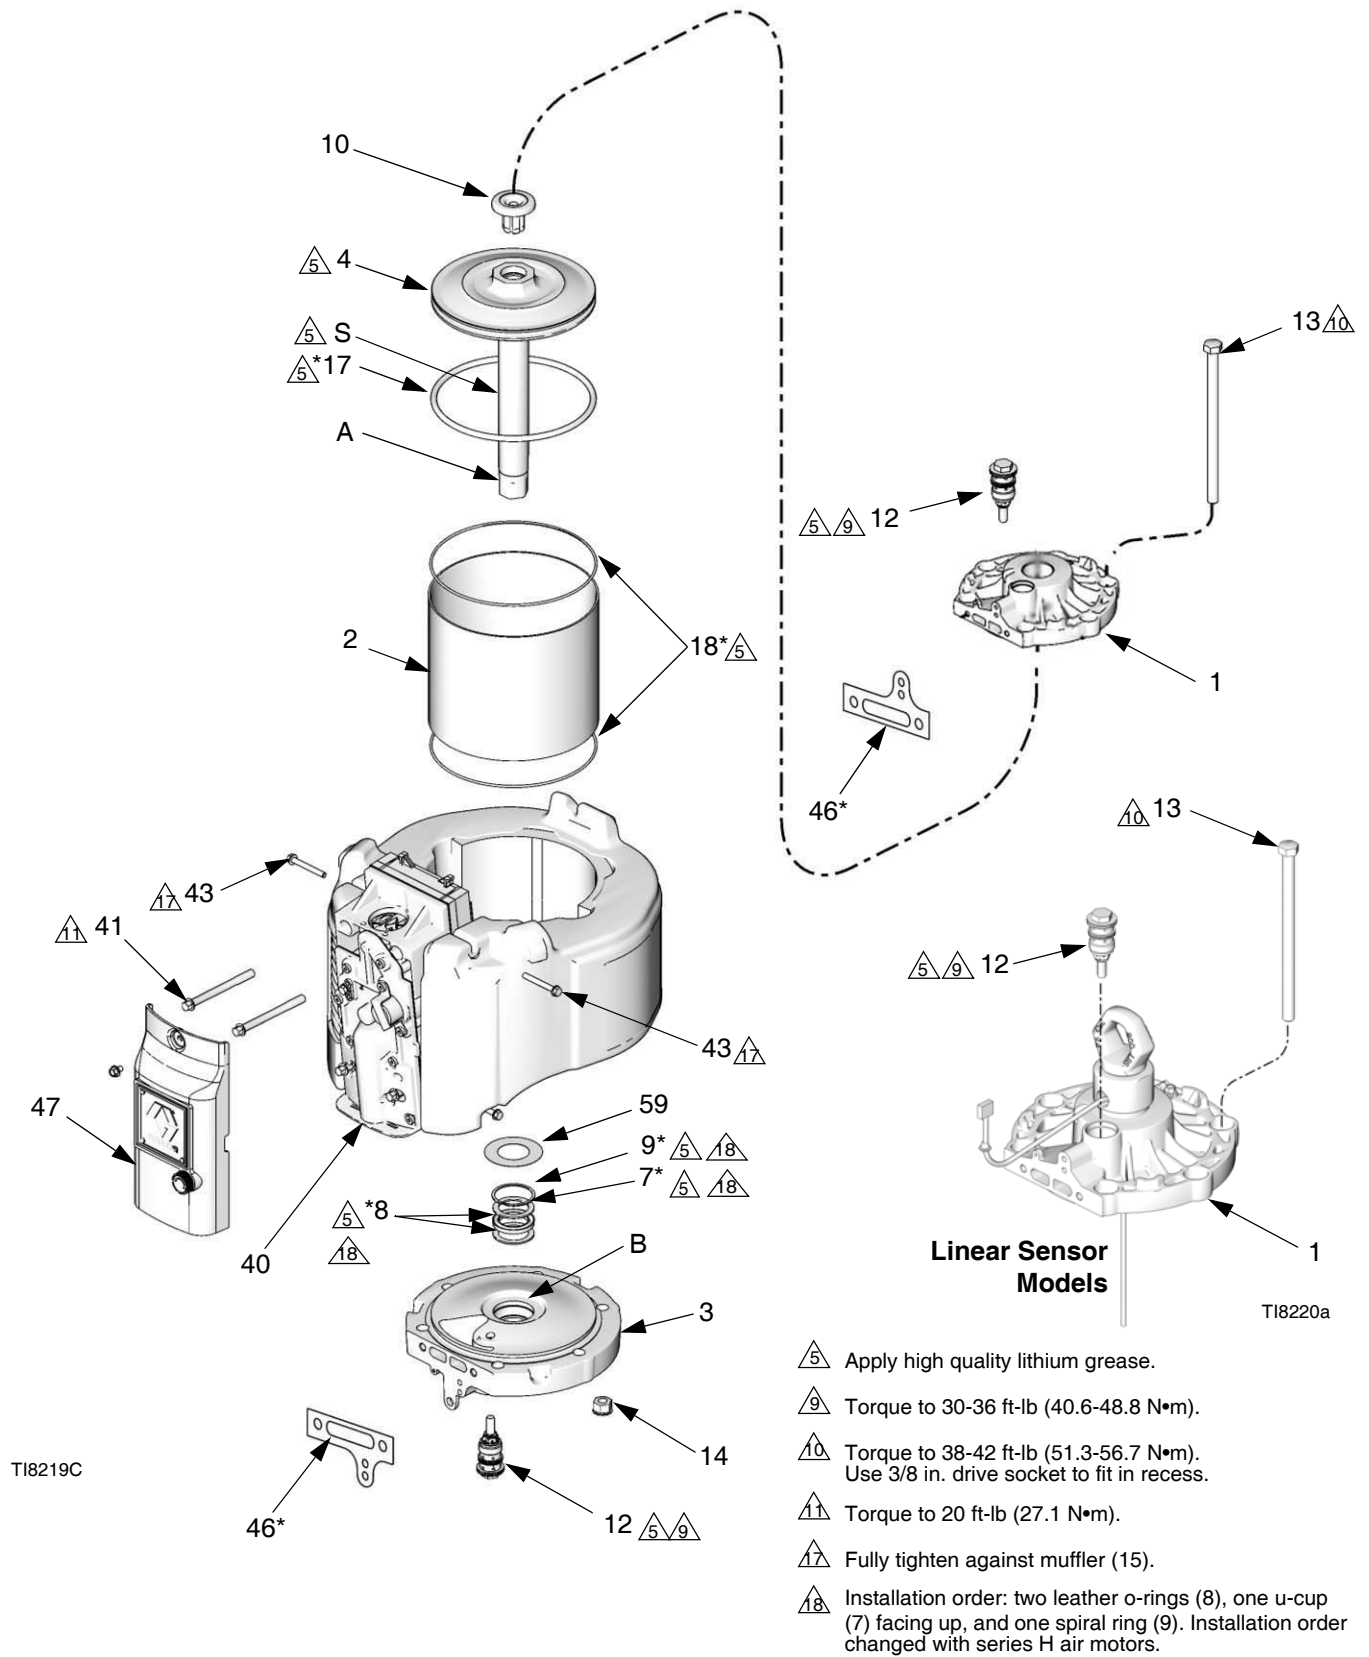

FIG. 12. Air Motor Repair
5. Remove the outer valve cover (47). See FIG. 12.
6. Remove the four screws (43) and the muffler (15).
7. Remove the top two air valve screws (41). Loosen but do not remove the bottom two screws (41). Tilt the air valve (40) to make disassembly easier.
8. Remove the tie bolts (13). Using a rubber mallet, hit the underside of the top cap (1) to separate. Lift the top cap off the motor.
9. Disconnect the air motor from the lower (see your separate pump manual). Leave the piston shaft adapter (A) attached to the shaft (S).
10. Push the piston assembly (4) out the top of the cylinder (2).
11. Inspect the piston o-ring (17). Check the piston (4) and piston shaft (S) for scoring or damage. The replacement piston (4) includes the piston, shaft (S), adapter (A), and bumper (10).
12. Remove the cylinder (2). Check the inner surface for scoring or other damage. Replace if damaged.
13. Remove the bumper (59), retaining ring (9), backup packings (8), and v-packing (7) from the bottom cover (3). Inspect these parts for wear or damage. Inspect the bearing (B) in place (slight scoring is acceptable). If the bearing is damaged, replace the bottom cover (3).
1. See FIG. 12. Install two backup packings (8\*), and then v-packing (7\*) with the lips facing up. Then install the retaining ring (9\*) in the bottom cover (3). Lubricate the packings. Install the bumper (59).